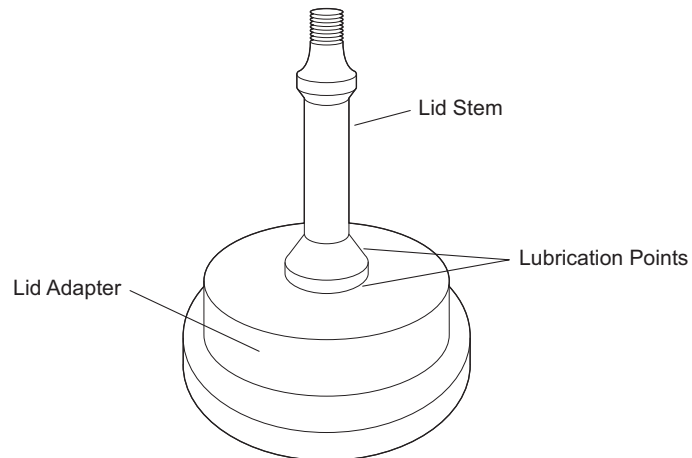

Figure 5. Lubricating the Lid Stem
- To prevent abrasion of the metal rotor tie-down components, place the rotor lid upside down on a flat surface and put two or three drops of Tri-Flow5 oil between the lid adapter and the lid stem (see Figure 5). This area should be lubricated every few weeks or after each autoclave cycle.